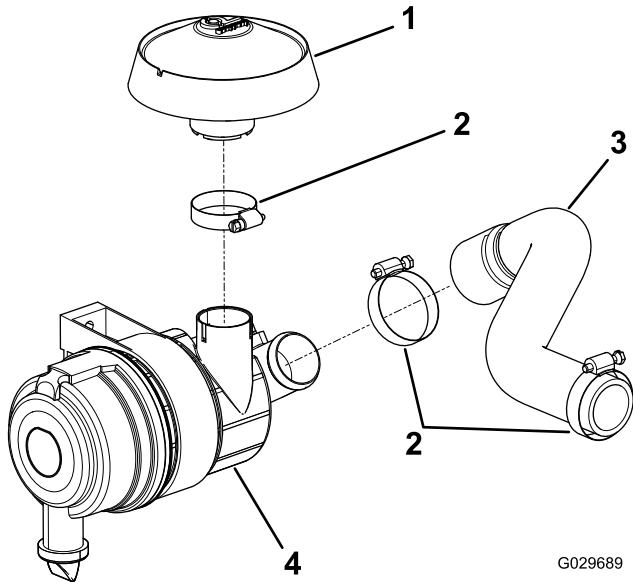

Figure 3
1. Loosen the hose clamp securing the rain cap to the existing air-filter assembly (Figure 3).
3. Loosen the hose clamp securing the existing hose to the air-filter assembly (Figure 3).